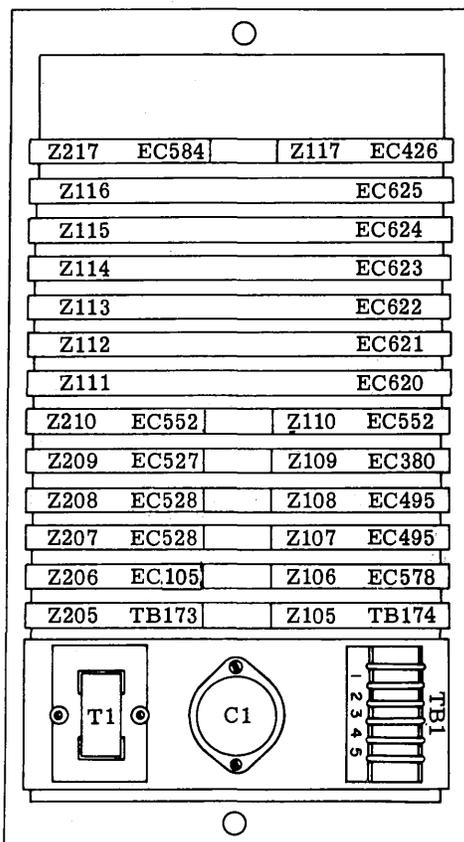

Figure 1 - Data Test Set 905C
2.02 Prior to installation, remove dust cover and ensure that no components or circuit cards have been damaged in shipping, and their locations conform to Figure 1.